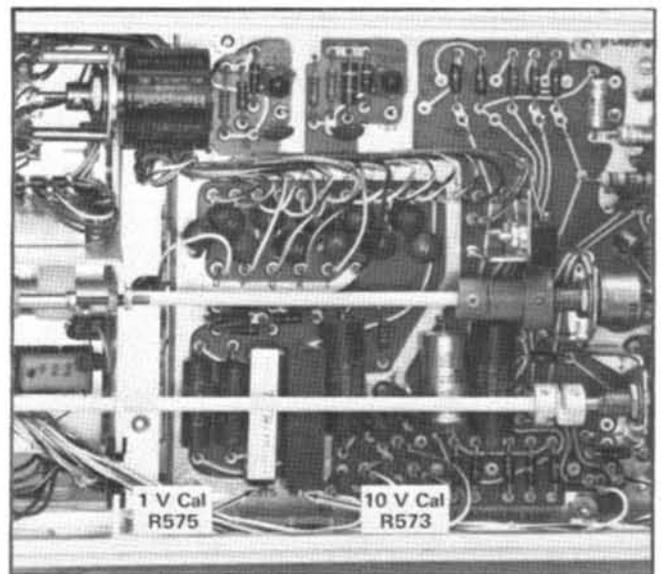

Fig. 5-27. Comparison Voltage adjustment locations on the Output board.
i. ADJUST—10 V Cal control R573 (see Fig. 5-27) to obtain a null indication on the Precision DC Voltmeter. Simultaneously set the Type 7A13 and Precision DC Voltmeter Polarity switches to +. Repeat steps 27e through 27i. If necessary,
28. Check/Adjust 1-Volt Calibration **①**
- g. ADJUST—1 V Cal control R575 (see Fig. 5-27) to obtain a null indication on the Precision DC Voltmeter. Simultaneously set the Type 7A13 and Precision DC Voltmeter Polarity switches to $-$. Repeat steps 28d through 28g. If necessary readjust R575 to obtain a compromise setting between the $+$ and $-$ Polarity null indications.